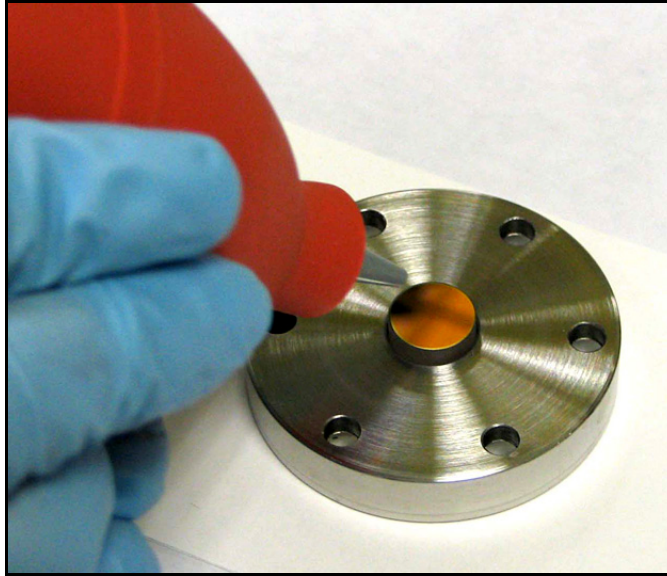

Figure 90: Drying the Mirror
6. Use the air blower to blow dry air onto the surface of the mirror. Puff repeatedly until the mirror surface appears dry (see Figure 90 below).
8. Use the air blower to blow dry air onto the surface of the mirror while holding it with the tweezers. Puff repeatedly until the mirror surface appears dry (see *Figure 90* on page 106).